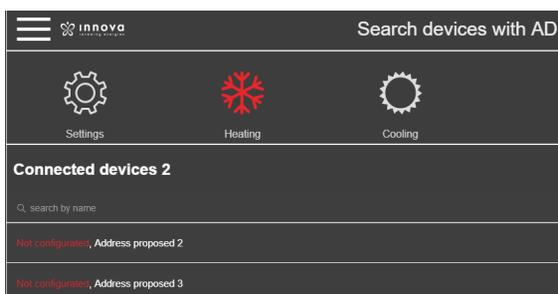

Figure 8.3
3. Will appear a list of devices with the words “Not configured” and the proposed address (Figure 8.3).